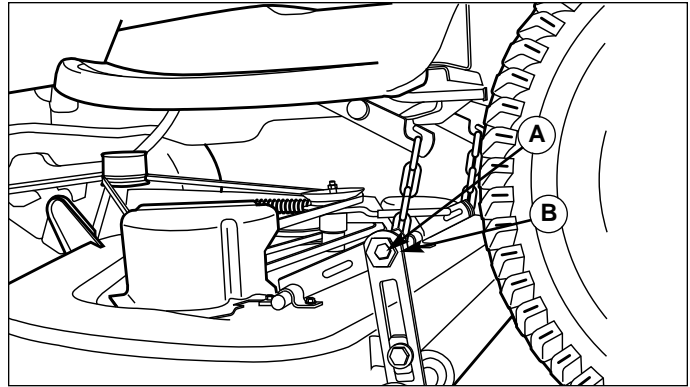

Figure 38. Leveling The Mower Side-to-Side Eccentric Nut Models
5. See Figure 38. Loosen the outside nut (A). Turn the eccentric nut (B) to raise or lower left-hand side of mower. When mower is level, hold the eccentric nut while tightening the outside nut.